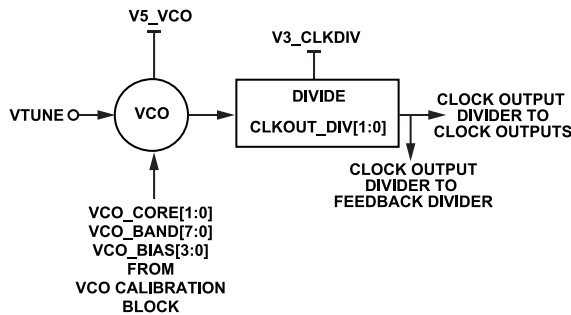

Figure 73. VCO and Clock Output Divider
The VCO core consists of four separate VCOs, each of which uses 256 overlapping bands, which allows the device to cover a wide frequency range without large VCO sensitivity (K_{VCO}). The output frequency can be further extended by utilizing the output divider (see Figure 73).
A 2-bit divider, $CLKOUT_DIV$, in Figure 73 is used to reduce the frequency seen at the output buffer and feedback divider. The clock output divide value (O) may be set to 1, 2, 4, or 8. Use the $CLKOUT_DIV$ bit to directly program the divide ratio. $CLKOUT_DIV$ is located inside the PLL loop. Therefore, any change to $CLKOUT_DIV$ requires a change to the N_INT bit fields, Bits[11:0] to maintain the same f_{PFD} and results in the PLL losing lock for a few loop time constants. For more information, see Table 18. For the relationship between the f_{REF} , f_{PFD} , f_{VCO} , and f_{OUT} frequencies, see the Output Frequency section.